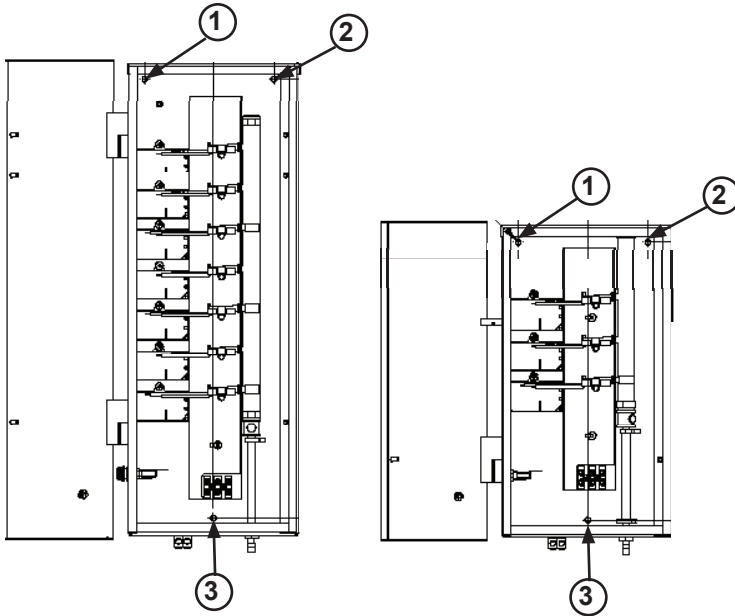

Figure 1. Location of the Mounting Holes
- A pressure wire connector is provided on the outside of the unit, marked with “Bonding Lugs” to permit connection to a minimum No. 6 AWG (13.3 mm²) solid bonding conductor between this point and any metal equipment, metal enclosures of electrical equipment, metal water pipes, or conduit within five (5) feet (1.5m) of the unit or as needed to comply with local requirements.
- The Jandy Pro Series Ozone generator must be installed in an outdoor location, or indoors in a forced air ventilated room, and installed so that the orientation is exactly as shown in Figure 1. Install to provide water drainage of generator to protect electrical components.
The Jandy Pro Series Ozone Generator must be installed in an outdoor location, or indoors in a forced air ventilated room, and installed so the orientation is exactly as shown in Figure 1.
1. Unscrew two (2) screws to open the enclosure door.
2. Locate the three mounting holes in the back of the enclosure (see Figure 1).